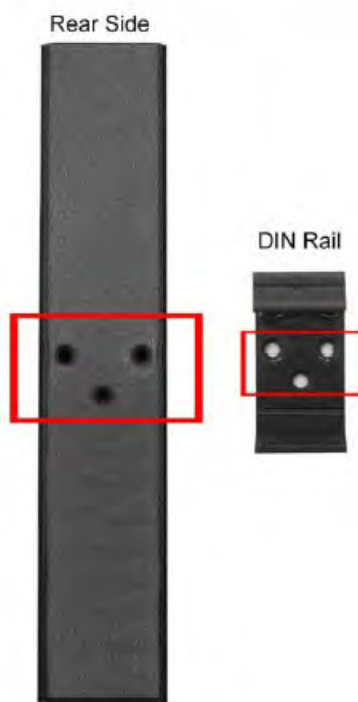

FIGURE 3-1 DIN-Rail Mounting
3. Align the top of the chassis DIN-Rail clip on the rear of the chassis with the top track of the DIN-Rail. See Figure 3-1